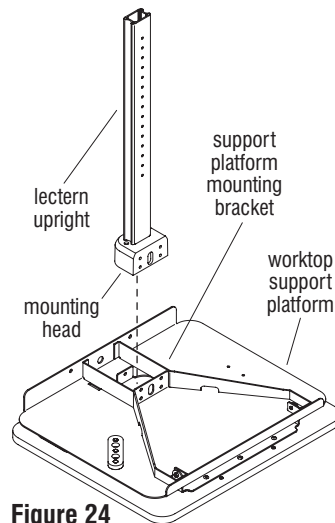

Figure 24
3. Carefully place the worktop support platform upside down on a soft, protective surface (Figure 24).
4. Orient the lectern upright upside down and carefully lower the mounting head into the rectangular opening of the support platform mounting bracket (Figure 24).